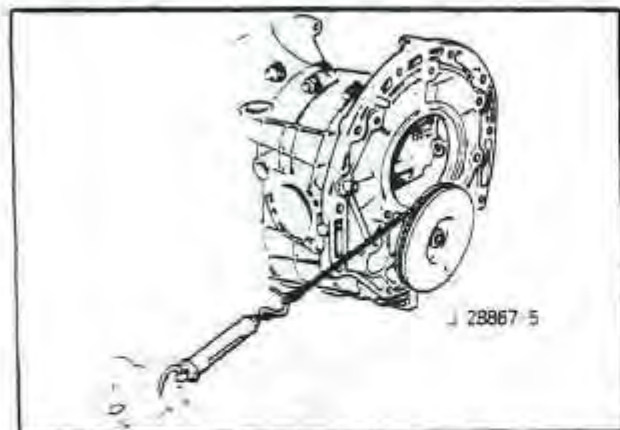

Fig. 80 PINION BEARING PRE-LOAD
- d. Remove the pinion lock tool and attach the measuring tool (part of the A T Tool Kit) to the pinion nut. Fig. 80